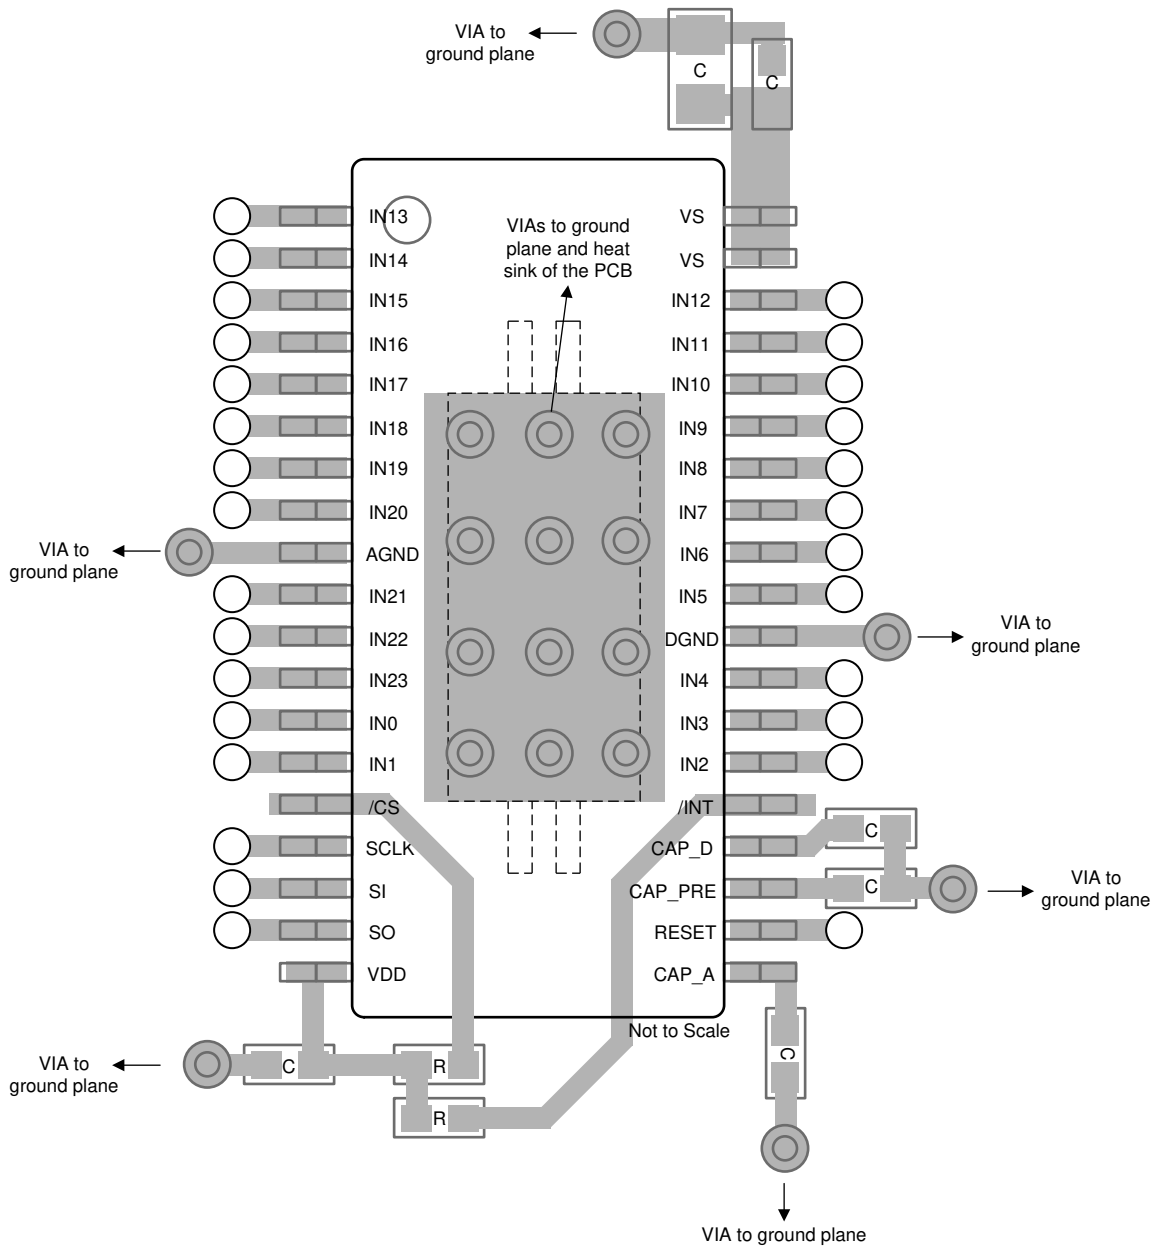

Figure 12-1. Example Layout
1. Figure 12-1 illustrates an example of a PCB layout with the TIC10024-Q1. Some key considerations are: